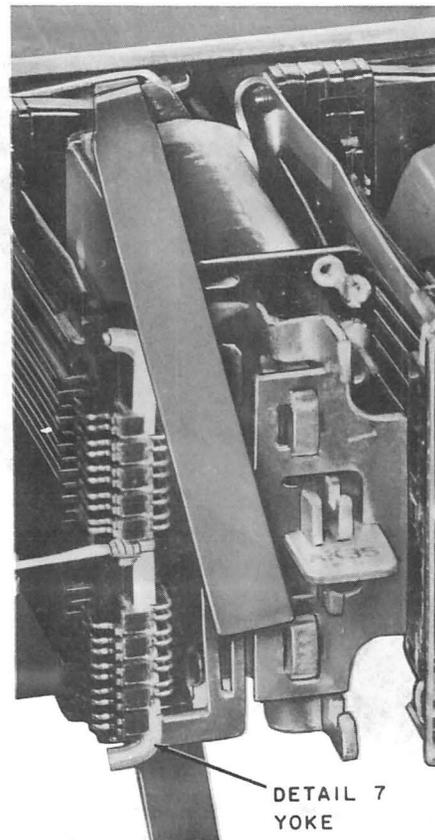

Fig. 21—Detail 7 Yoke in Place Between Contacts
3.42 Insert Detail 7 yoke between the right movable contacts and fixed single contacts as shown in Fig. 21. Holding Detail 14 comb in
3.43 Tie Detail 7 yoke assembly to Detail 3 anchoring post, as shown in Fig. 21, using lock stitch. Pull only tight enough to release the pressure of the spring assembly against the core plate of the relay and tie. Clamp spring can now be released.